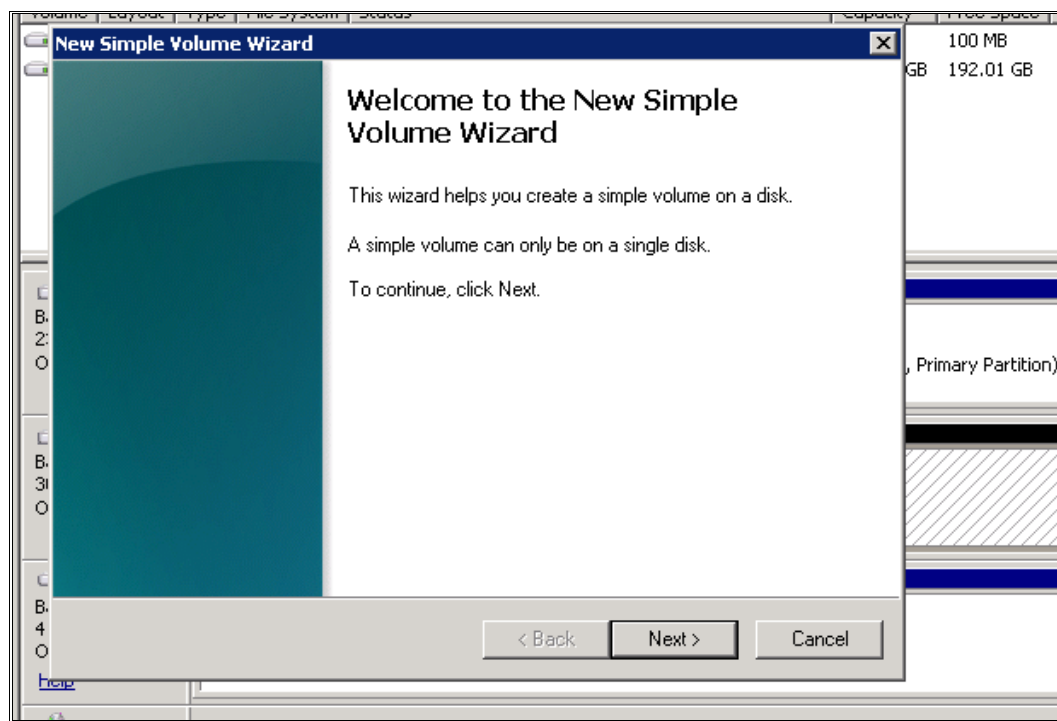
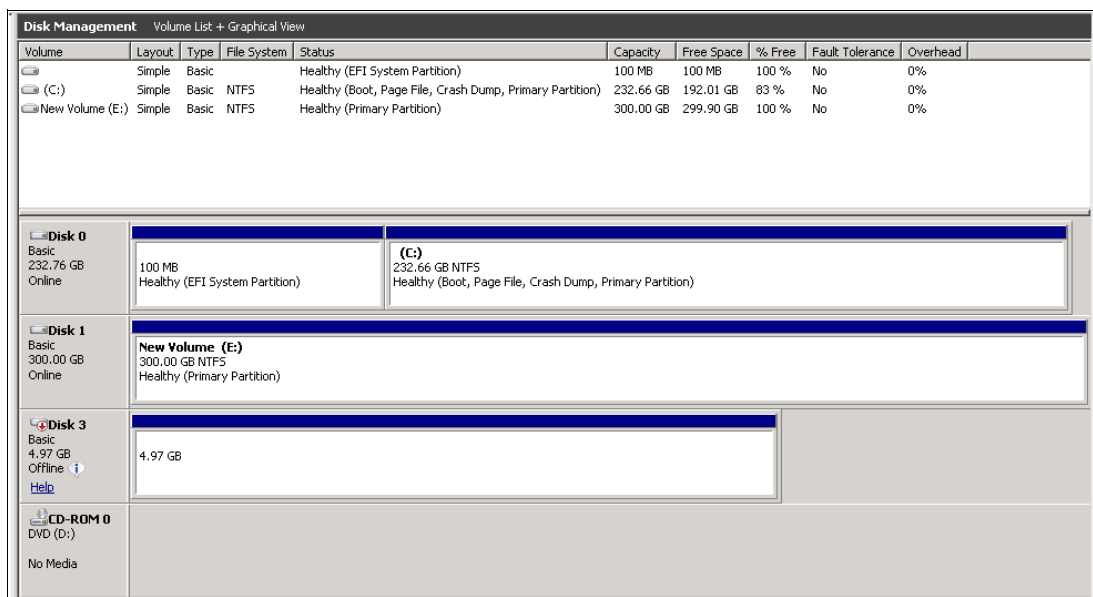

Figure 5-42 New Volume wizard
Figure 5-43 Volume is ready to use
10. The New Simple Volume wizard starts, as shown in Figure 5-42 on page 190. Follow the wizard and the volume is ready to use from your Windows host, as shown in Figure 5-43 on page 190. In our example, we mapped a 300 GB disk on the IBM Storwize V5000 to a Windows 2008 host by using Fibre Channel connectivity.